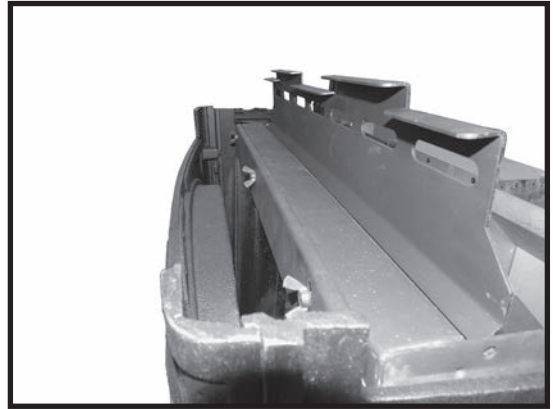

Fig. 94: Glass barrier wing nuts
3. Remove 3 wing nut bolts that are holding the glass barrier in place (Fig. 94). Slide the top of the barrier away from the wing-nut posts. Lift and remove glass barrier.